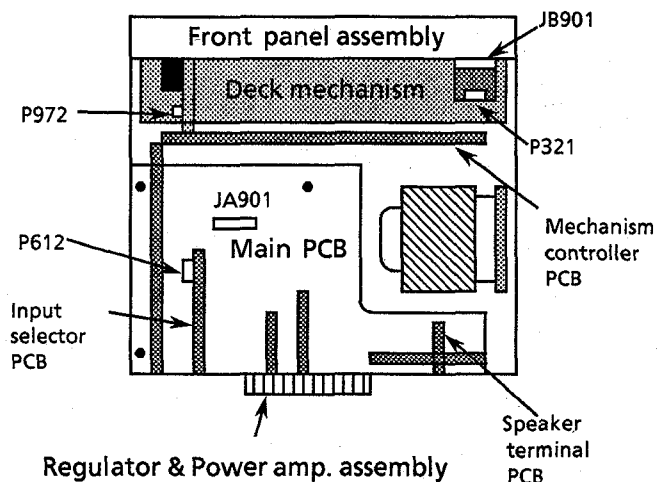

Figure 2 Top view
2. Cut the tie bands ③ and ④.
3. Remove the screw ①.
5. Disconnect the connectors P331, P332, P333, P334 (Deck PCB), P321 (Head phone PCB), P612 (Input selector PCB) and the flat wire JB901 (System control PCB) and P972 (Main volume PCB) (Figure 2, 3, 4).
3. Disconnect the flat wire JA901 (Figure 2).